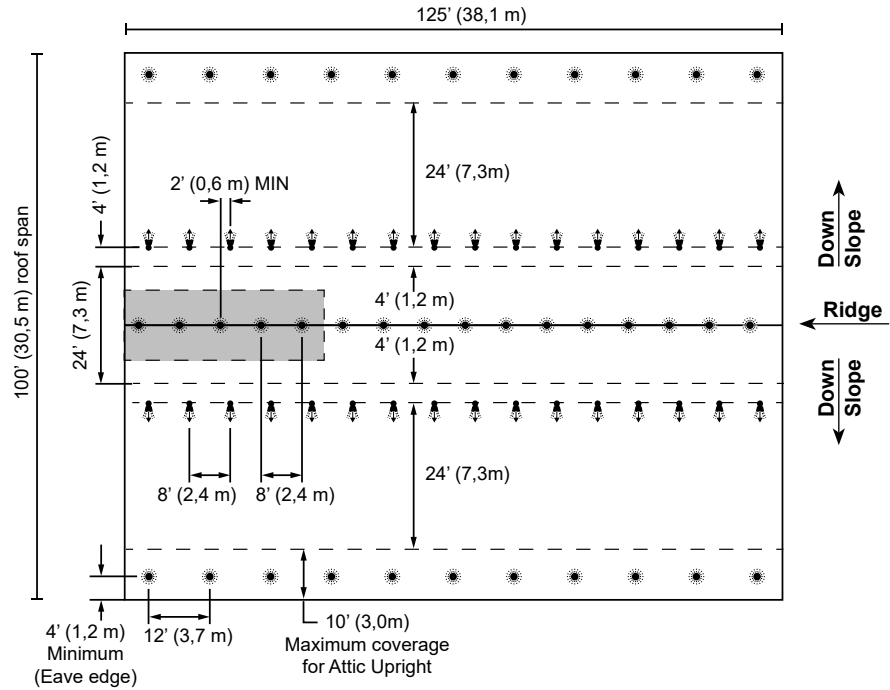

Figure 15A: Wet System Design for 100 ft (30,5 m) Roof Span
1. Figure 15A - Calculate the 5 most demanding VK697 Ridge Sprinklers. Down slope V-EP Sprinklers staggered arrangement. Continue to #2 below.